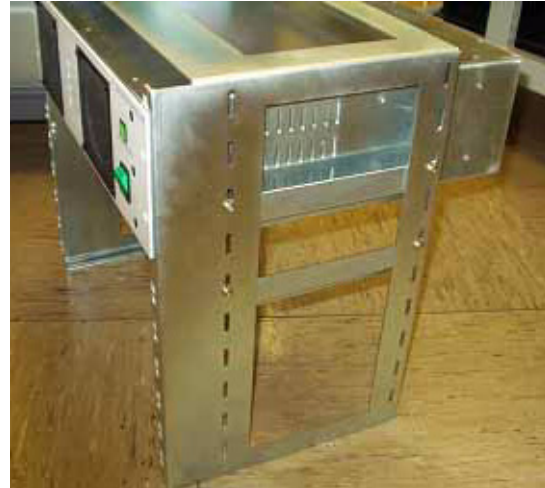

Figure 5.1 - Mount the controllers in the electronics rack
3. Mount the rails and attach the rack nuts at the positions shown in Figure 5.1. The FDC (if present) must be mounted below the detector controller. Otherwise, the airflow inside the detector controller is restricted.